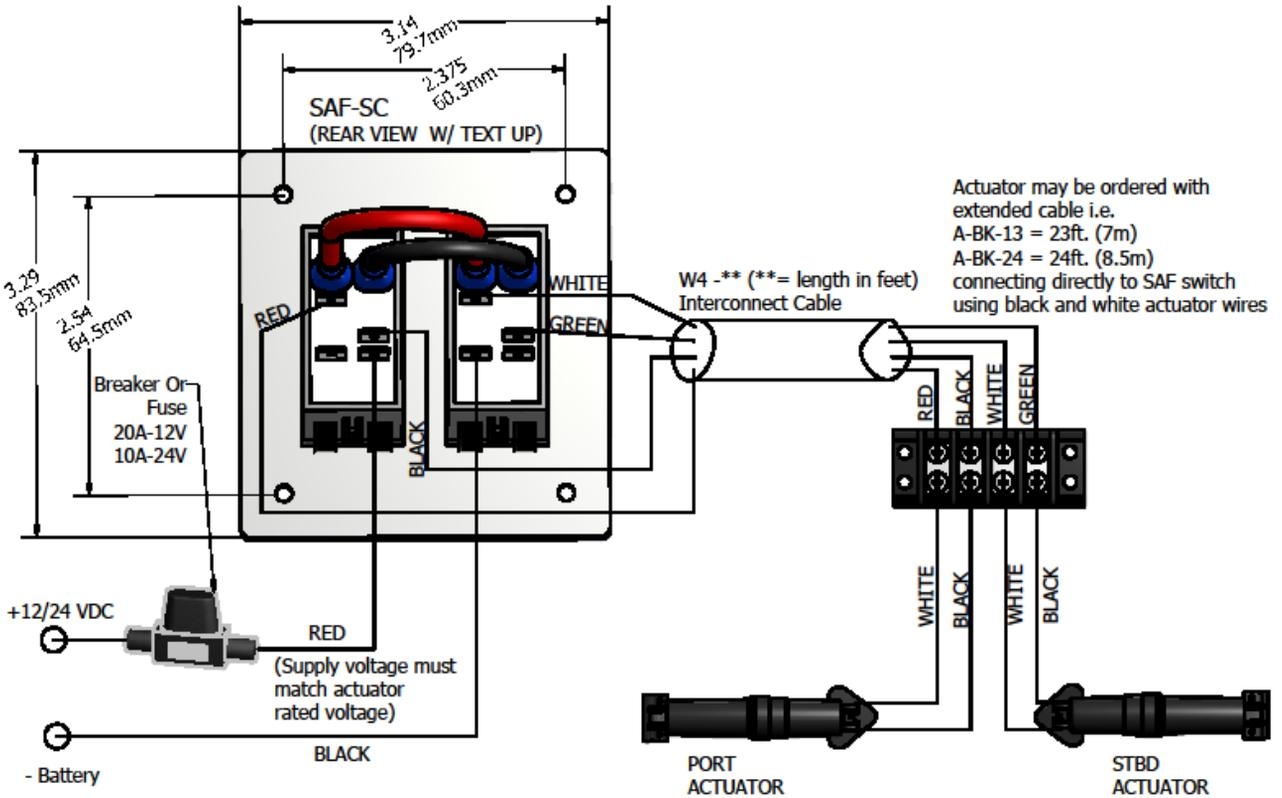

Fig. 4
1. KA Kits include actuators with 6' (1.8m) extended cable and 20' (6.1m) cable (W4-20) to attach from the actuators to the control switch (see Fig. 4). This cable is also available in longer lengths. Visit [www.lectrotab.com](http://www.lectrotab.com) for additional cable lengths listed under Products/Individual Parts and Accessories.
2. KA Kits include a hardware kit, which contains a terminal strip and terminals to connect the actuator cable to the 20' (6.1m), 4-conductor, 14 AWG (2.08mm sq.) cable (see Fig. 4). The cut end of the 20' (6.1m) cable may be routed starting where the control switch will be mounted. The 4 blue push-on terminals will connect to the rocker switch.
5. Crimp the fork terminals to the cut end of the black actuator cable and connect to the 4-lug terminal strip per Fig. 4.
6. Crimp the fork terminals to the cut end of the 4-conductor gray cable (W4-20) and attach to the 4-lug terminal strip per Fig. 4.
2. If the W4-\*\* cable is used to connect the switch to actuators, route the cut cable end from the Rocker Switch to the transom terminal strip. The push-on terminal end of the 20' (6.1m), 4-conductor, 14 AWG (2.08mm sq.) cable connects to the Rocker Switch (KA Kits), or route the longer 23' (7m) actuator cable directly to the Rocker Switch (XKA Kits). Connect cable to switch as shown in Fig.4.
3. Connect a fused 12vdc or 24vdc power source as shown in Fig 4. **Power source voltage must match the actuator voltage.**